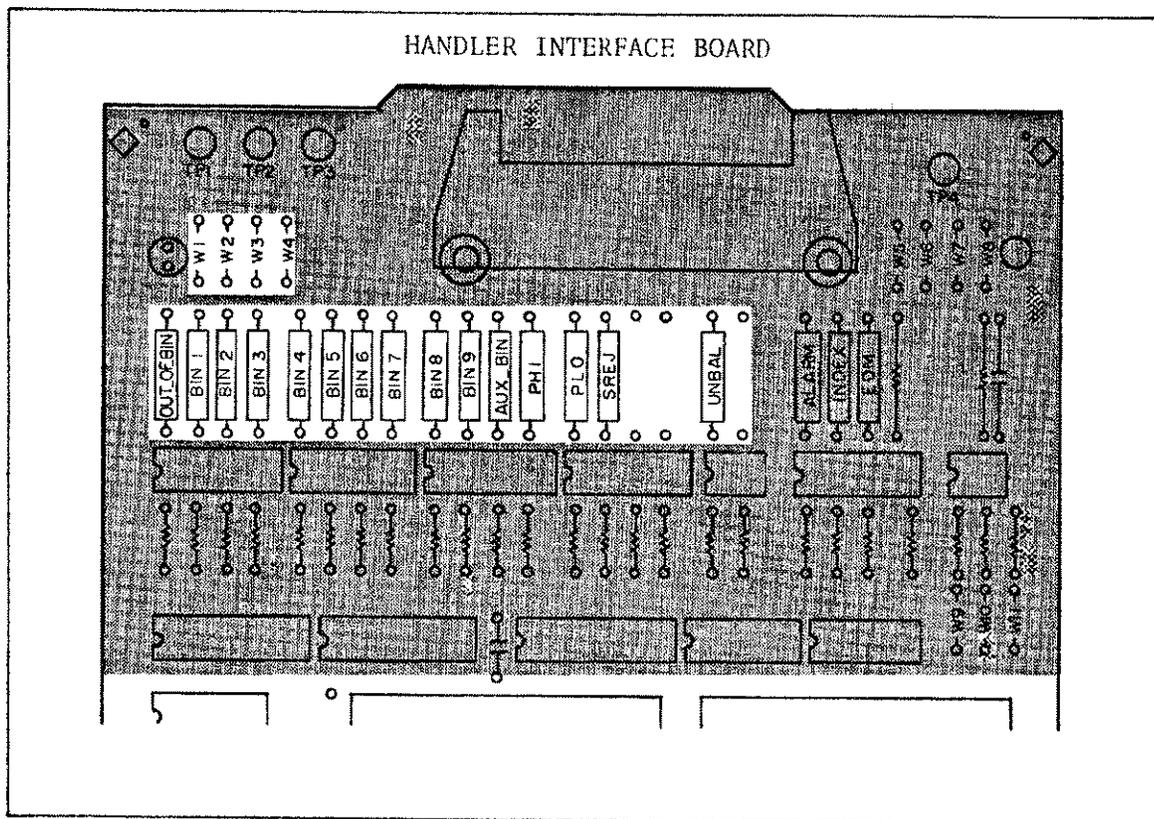

Figure 4-11. How to Set Up the Handler Interface Board 1
9. Set the jumpers in accordance to Table 4-8, (See Figure 4-11).